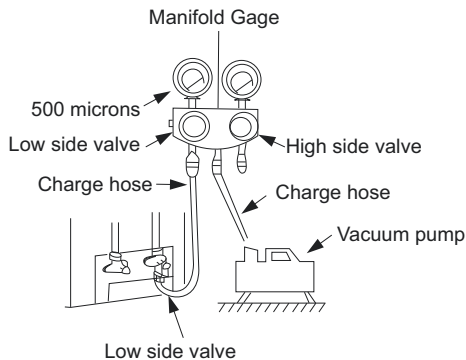

Fig. 9 —Manifold
3. Fully open the low side of the manifold gage (see Fig. 9).